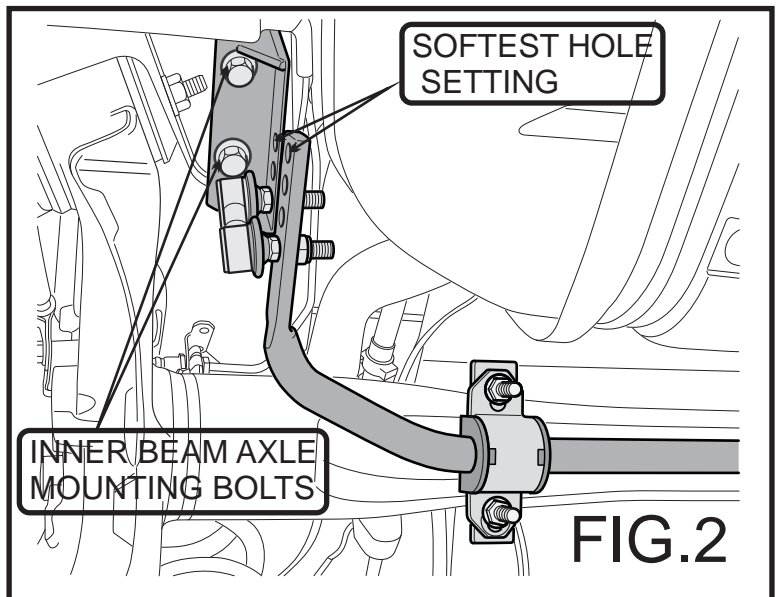

FIG.2
4. Mount swaybar links in place making sure the supplied small washers are between the nuts and the swaybar. Ensure the swaybar links are mounted into the softest hole on the swaybar (as indicated in FIG.2) until you are accustomed to the change in the vehicles suspension characteristics.